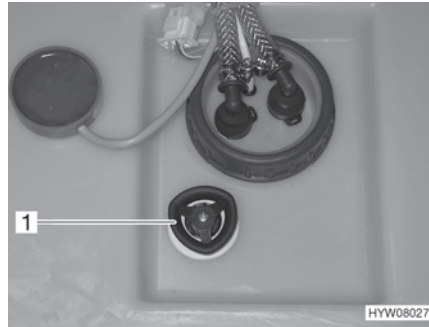

Fig. 135 Water tank with rotary handle
- Turn the rotary handle (Fig. 135,1) on the water tank in an anticlockwise direction as far as possible beyond the resistance to fully open the drainage opening.